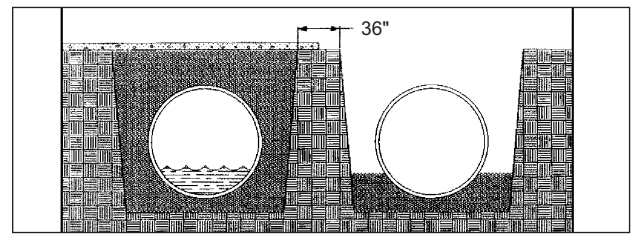

FIGURE 17-1
17.2.1. The preferred method (*FIGURE 17-1*) is the following: